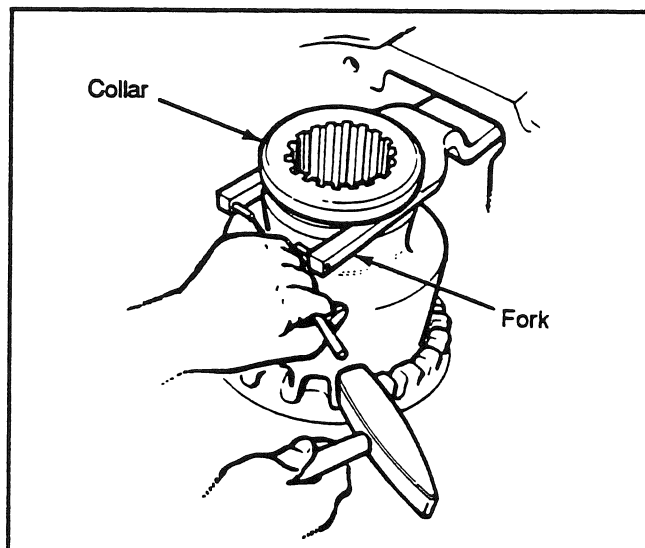

Fig. 8
1. Tap the two roll pins until they are flush with the inner face of the fork (see Fig. 8). Release the differential lock if it is manually engaged.